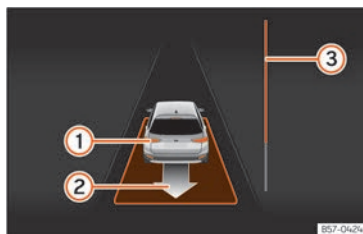

Fig. 142 On the instrument panel display: driving off from perpendicular parking.
- Reverse until the continuous ParkPilot signal sounds; **OR:** reverse until the instrument panel display shows the forward indication. The progress bar >>> Fig. 142 ③ indicates the distance to cover.
- Press the brake pedal until the parking assist system completes the steering wheel turns; **OR:** press the brake pedal until the symbol ⑤ goes out on the instrument panel screen.